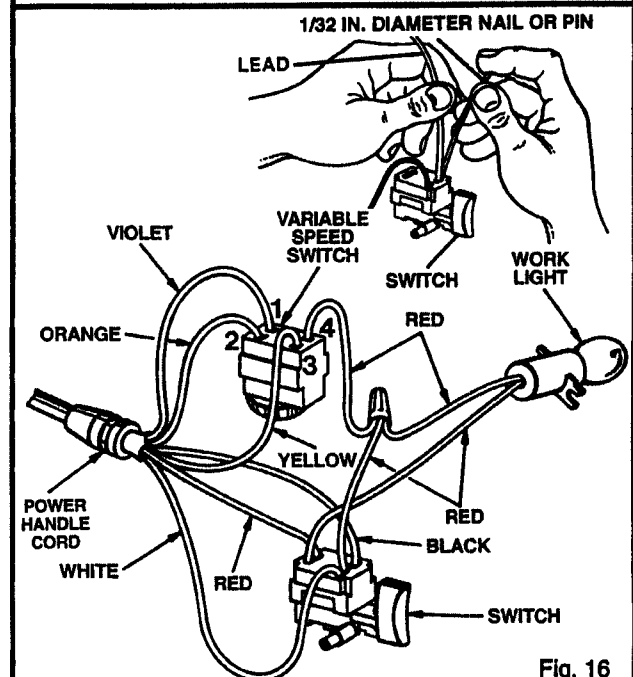

Fig. 16
3. **NOTE THE LOCATION OF MOLDED BEND RELIEF (C) ON POWER HANDLE CORD AND ALL WIRING IN HANDLE. ALSO NOTE HOW EACH LEAD IS CONNECTED TO SWITCH. The side of the variable speed control switch is marked with identification numbers. Connections and wiring position must be identical when installing new switch.** See Figure 16.
4. Remove leads from switch (D) by inserting a 1/32 in. diameter nail or pin into switch lead receptacle and pulling on lead as shown in figure 16. Remove nail or pin with a twisting, pulling motion.
7. Make sure molded bend relief (C) is correctly positioned in switch handle, then replace handle cover and screws.